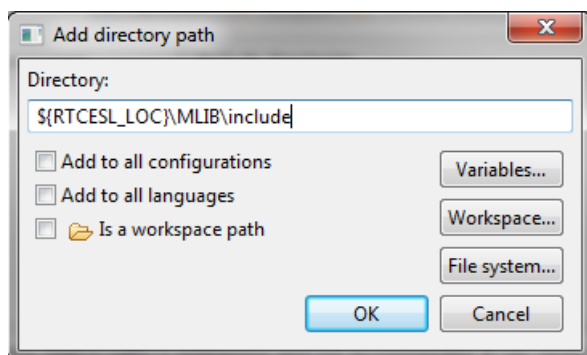

Figure 1-25. Library include path addition
20. Click the Add... button on the right, and a dialog appears. See Figure 1-25.